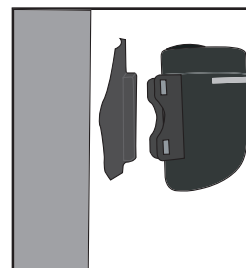

Figure 11- Wireless sensor, foot, and fork blade
3. For the wireless sensor, install the rubber "foot" in the sensor (Figure 11).